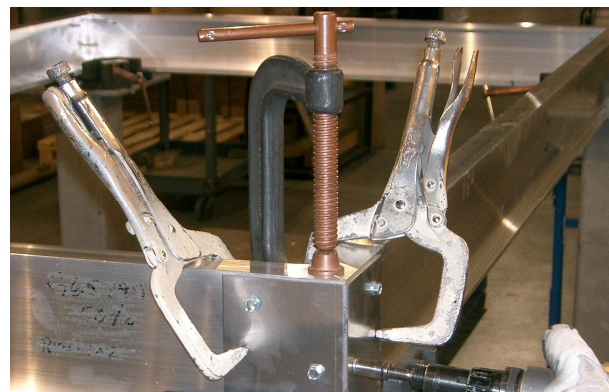

Figure 3.5
- i. It may be necessary to hold the rails and bracket with clamps (see figure 3.5).